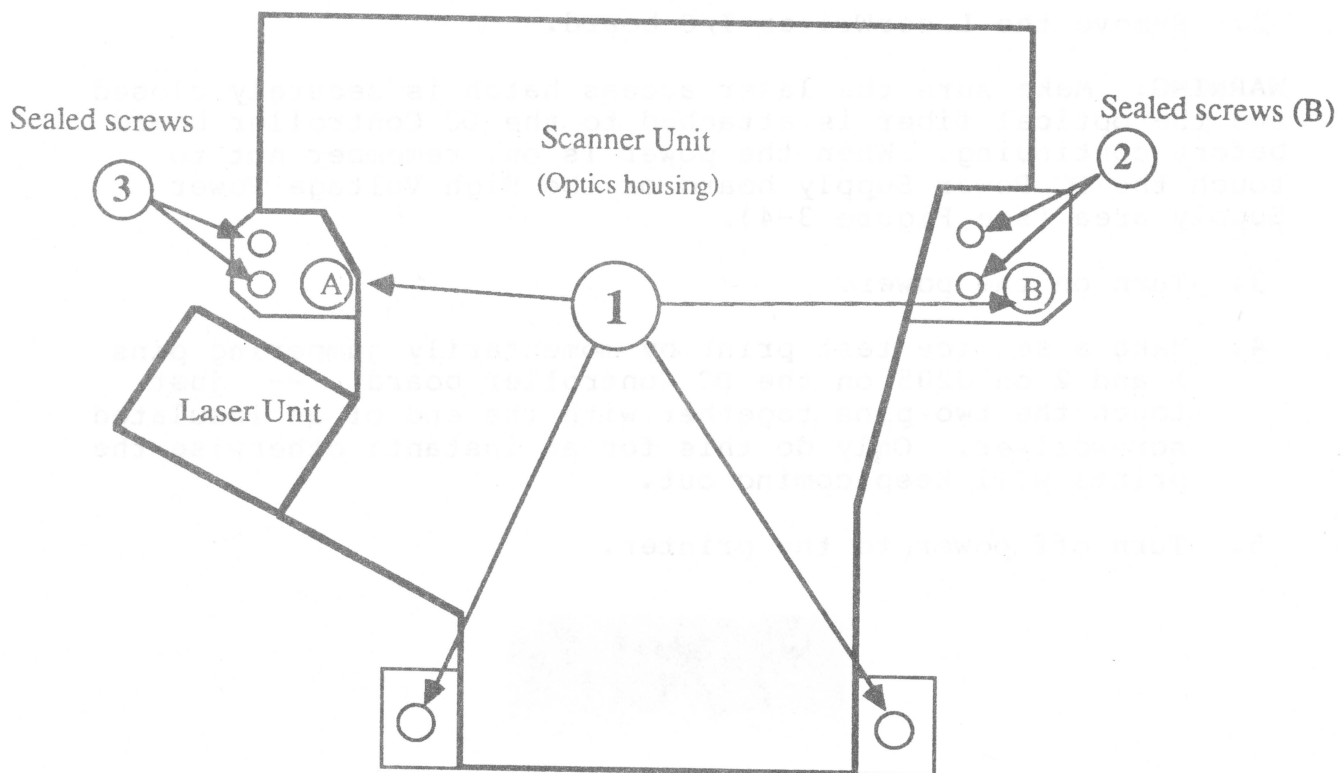

Figure 3-5
6. To make the scanner unit movable, loosen the four large mounting screws (Figure 3-5, #1) and the two sealed screws farthest from the laser (Figure 3-5, #2).
10. Tighten the two sealed screws you had loosened earlier on the far side of the scanner (Figure 3-5, #2) and loosen the two sealed screws near the laser unit (Figure 3-5, #3).